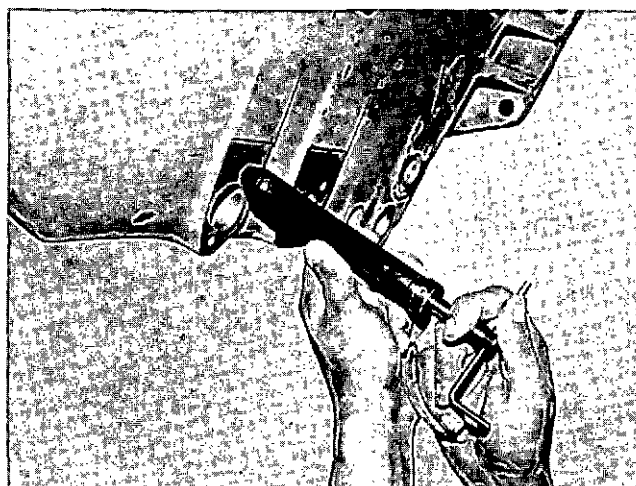

Fig. 7-1-1, V40731. Installing helicoil insert in oil pan
- b. Use starting and finishing tap for helicoil inserts for new or oversize holes in aluminum. When tapping aluminum, use fuel oil for lubricant to prevent tearing. Fig. 7-1-1.